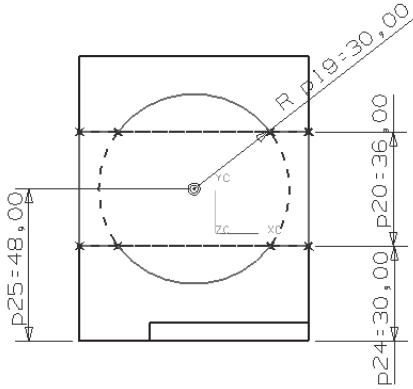

Figure 4-74 Sketch for the fourth feature
- Create the fourth and fifth features on the base face of the base feature, refer to Figures 4-74 through 4-76.
2. Draw the sketch of the feature and add the required constraints and dimensions, as shown in Figure 4-74.